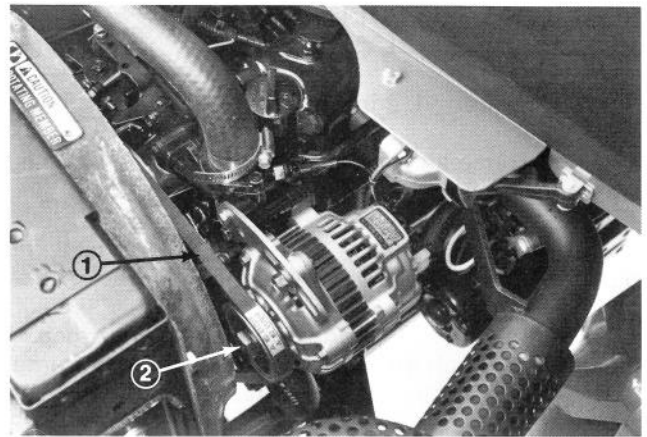

Figure 40
2. Check tension by depressing belt midway between alternator and crankshaft pulleys with 22 lb (10 Kg) of force (Fig. 40). Belt should deflect 7/16 in. (9 to 11 mm). If deflection is incorrect, proceed to step 3. If correct, continue operation.
3. Loosen bolt securing brace to engine and bolt at bottom of alternator securing alternator to engine (Fig. 40).
2. Loosen bolts securing alternator to engine and alternator to brace (Fig. 40).